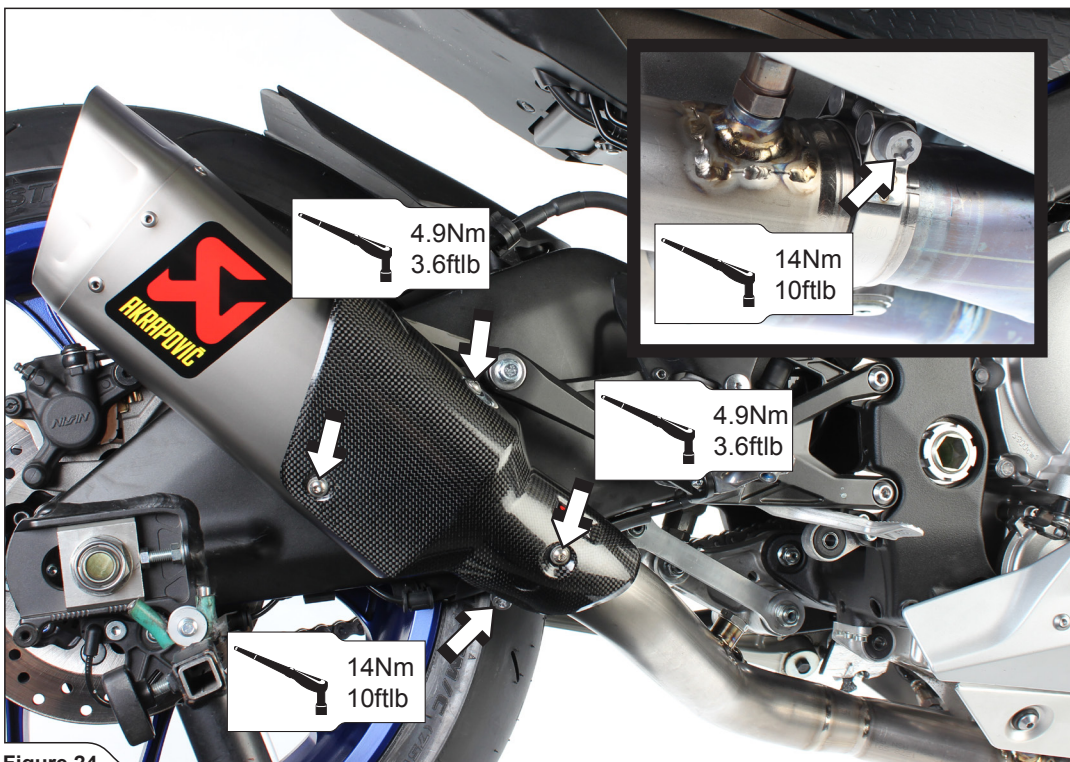

Figure 24
6. Hook the heat shield onto the muffler, align the clamp with heat shield bolt and tighten the bolts and link pipe connection clamps to the specified torques (Figure 24).